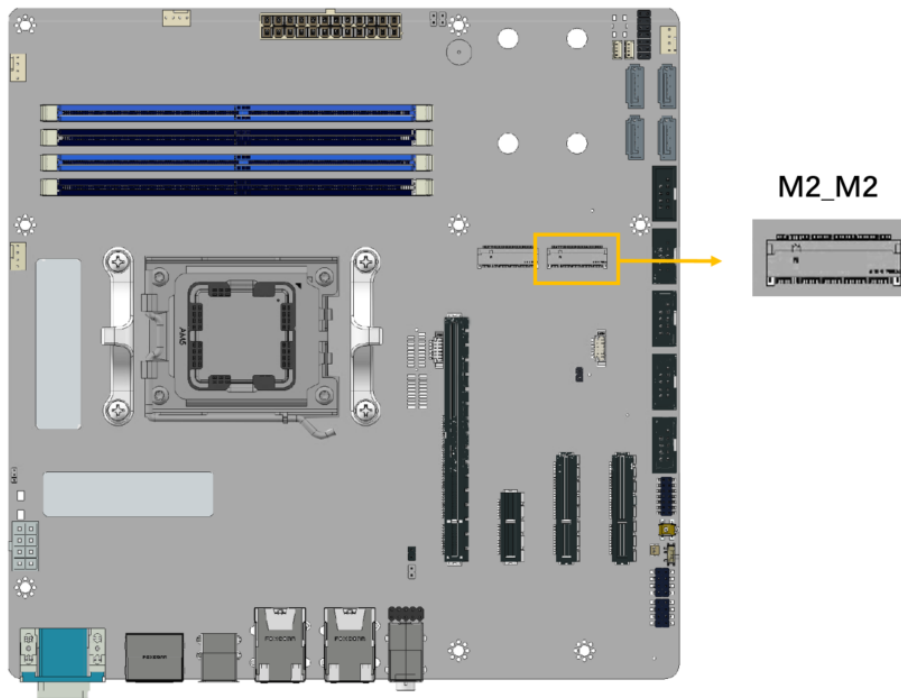

Figure 4-16: M.2 M-key Slot Location
- CN Location:** See **Figure 4-16**